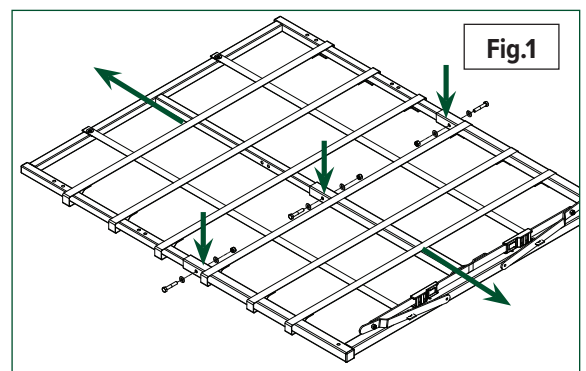

Fig.1
1. **(Fig. 1)** Locate the Collector Frame and lay it flat on the ground.